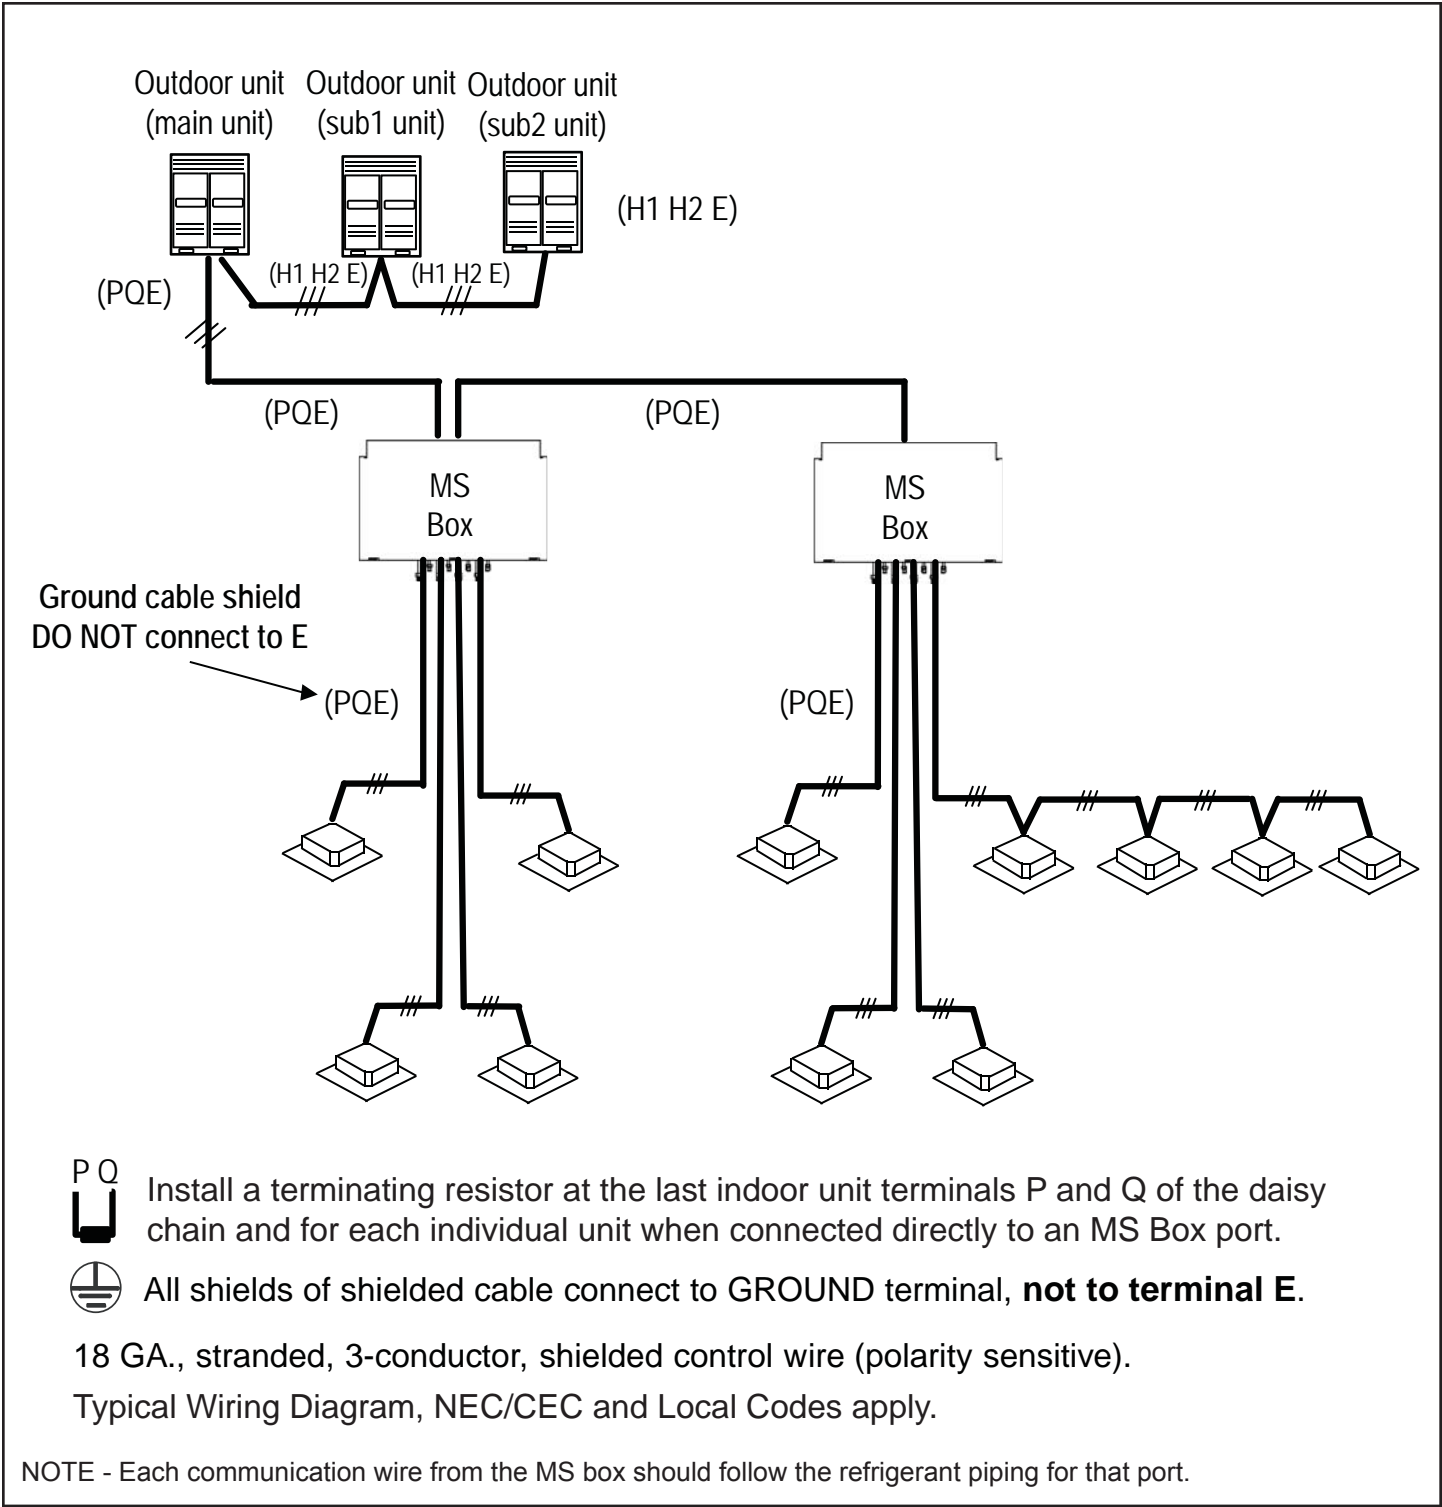

Figure 14. Typical Communication Wiring Diagram (VRF Heat Recovery System)
7. If the indoor unit is the final unit in a group that is wired in series, install the provided resistor across terminals P and Q. See figure 14.